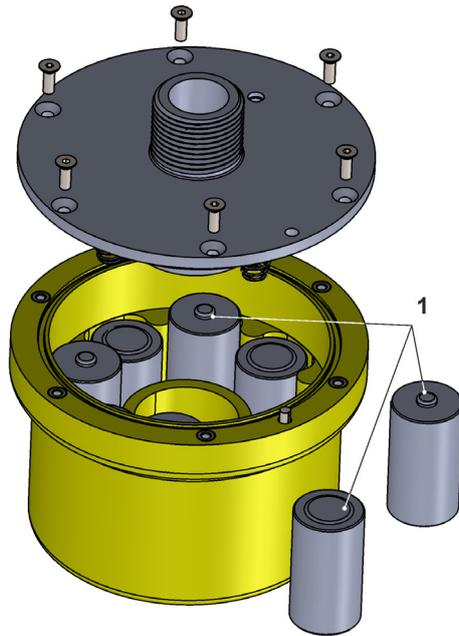

Fig. 37-1 Battery Replacement
3. Remove the batteries (Fig. 37-1 Pos. 1).